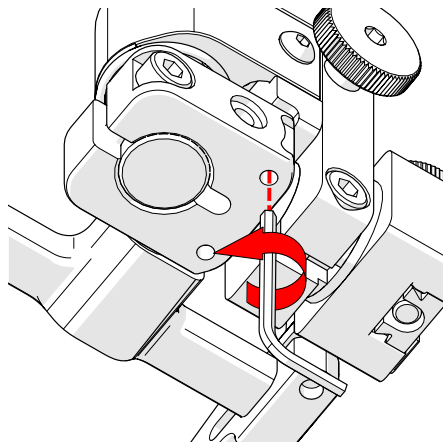

Fig. 121 - Lower 90° stop post
7. Locate the recessed M3 screw (stop post) on the bottom of the probe holder. Unscrew the stop post using a 1.5 mm hex wrench until it has cleared all obstructions. Do not remove stop post (Fig. 121).